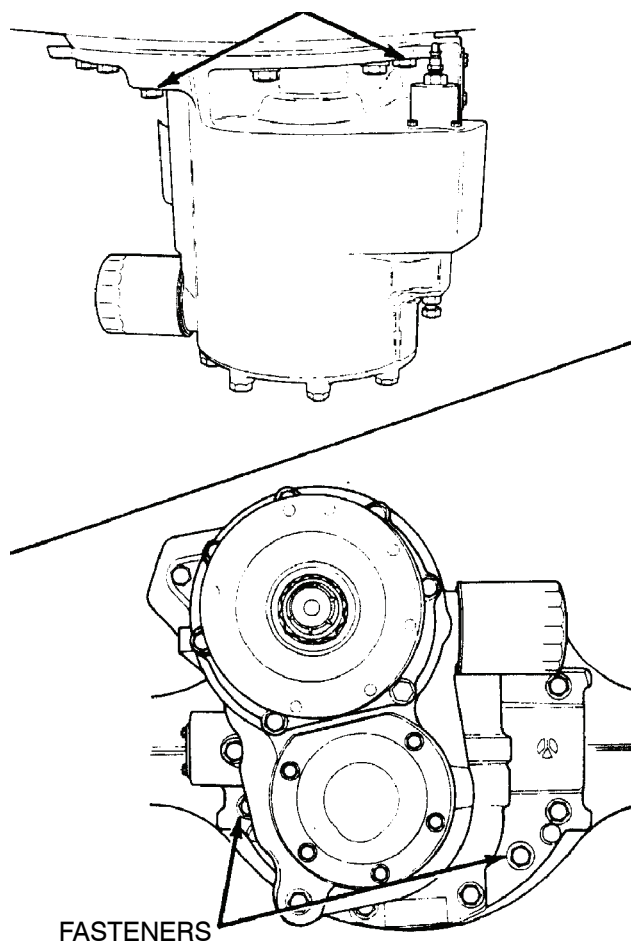

Figure 104.
- (8) Install the nuts and the washers or the capscrews and the washers in the four corner locations around the carrier and the axle housing. Tighten the fasteners by hand. **DO NOT TIGHTEN TO THE SPECIFIED TORQUE.** Figure 104.
- (9) Carefully push the carrier into position. Tighten the four fasteners two or three turns each in a pattern opposite each other. Figure 104.
- (10) Repeat step 9 until the four fasteners are torqued to 150–230 ft–lbs (203–312 N·m).
- (11) Install the other fasteners and the washers that hold the carrier in the axle housing.